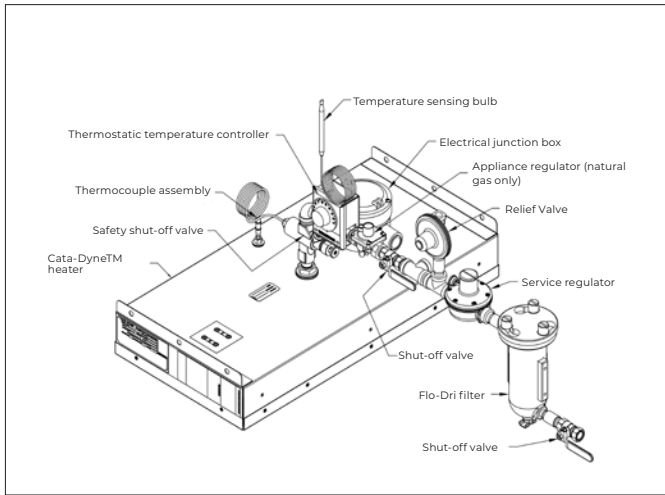
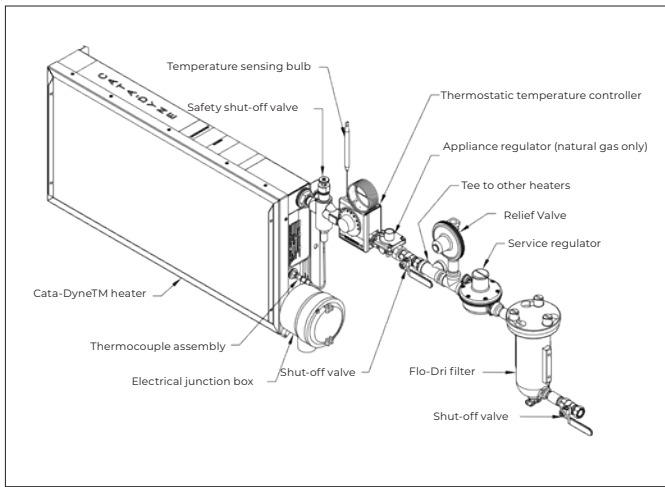

Figure 2 – Typical natural gas Cata-Dyne™ Heater installation
Figure 3 – Typical natural gas installation (MKII model only)
7. For installation, see Figure 2, page 6 for typical Cata-Dyne™ Heater and Figure 3, page 6 for natural gas MKII model.